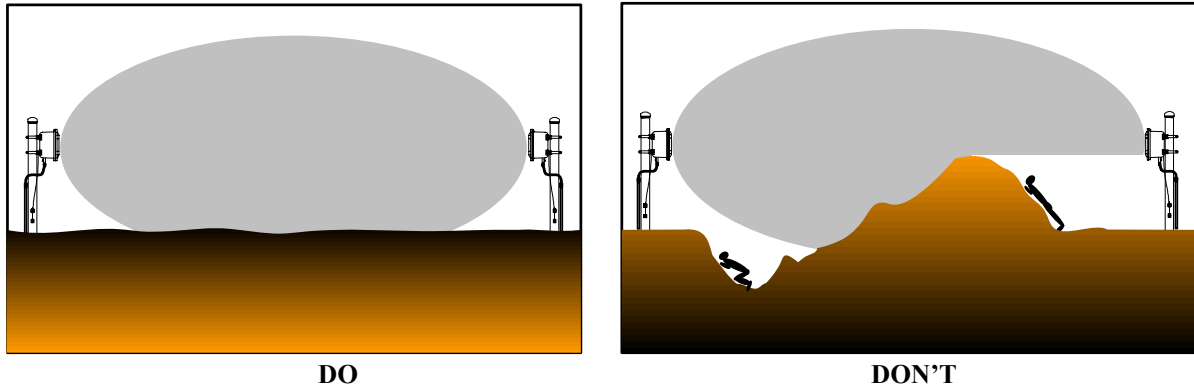

Figure 11 – Level Terrain
Terrain: Since the operation of Link requires transmission of energy from Transmitter to Receiver, it is important to maintain a clear line of sight between the units. Therefore, the ground must be flat across the protected area. Any bumps, hills or ditches in the area will shadow the beam and may provide crawl space for an intruder. Bumps or hills must be leveled, and ditches filled so that the area is flat to within six (6) inches (15cm). See Figure 11.